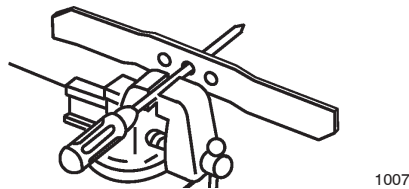

Figure 26
1. Check the balance of the blade by placing the center hole of the blade over a nail or screwdriver shank clamped horizontally in a vise (Fig. 26).